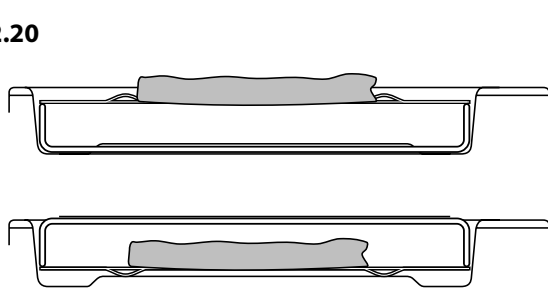

Fig. 2.21
1. Turn the oven knob to the desired temperature (Fig. 2.21).